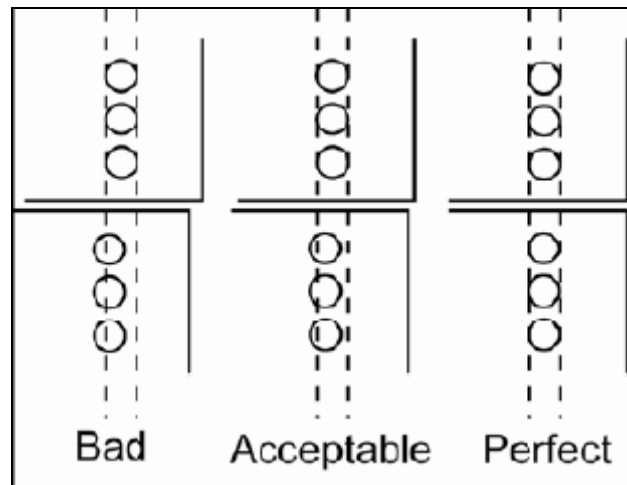

Figure 5: LED Alignment
25. Verify the LEDs on the display face are aligned. Refer to **Figure 5**.